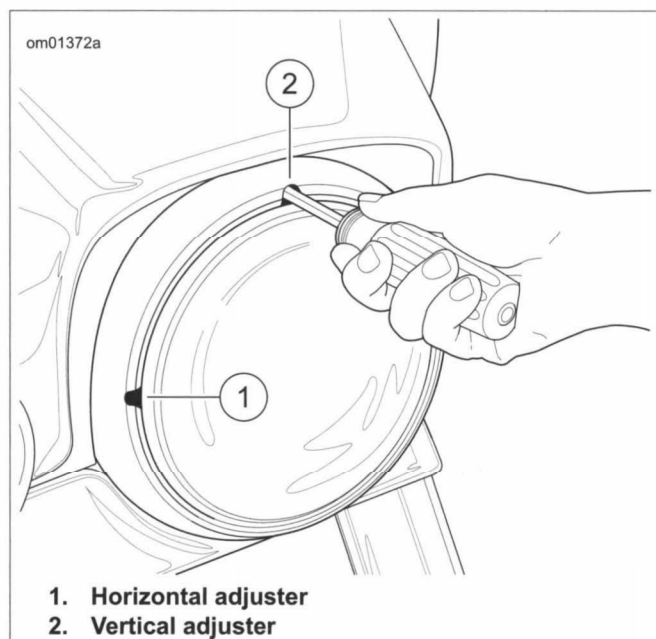
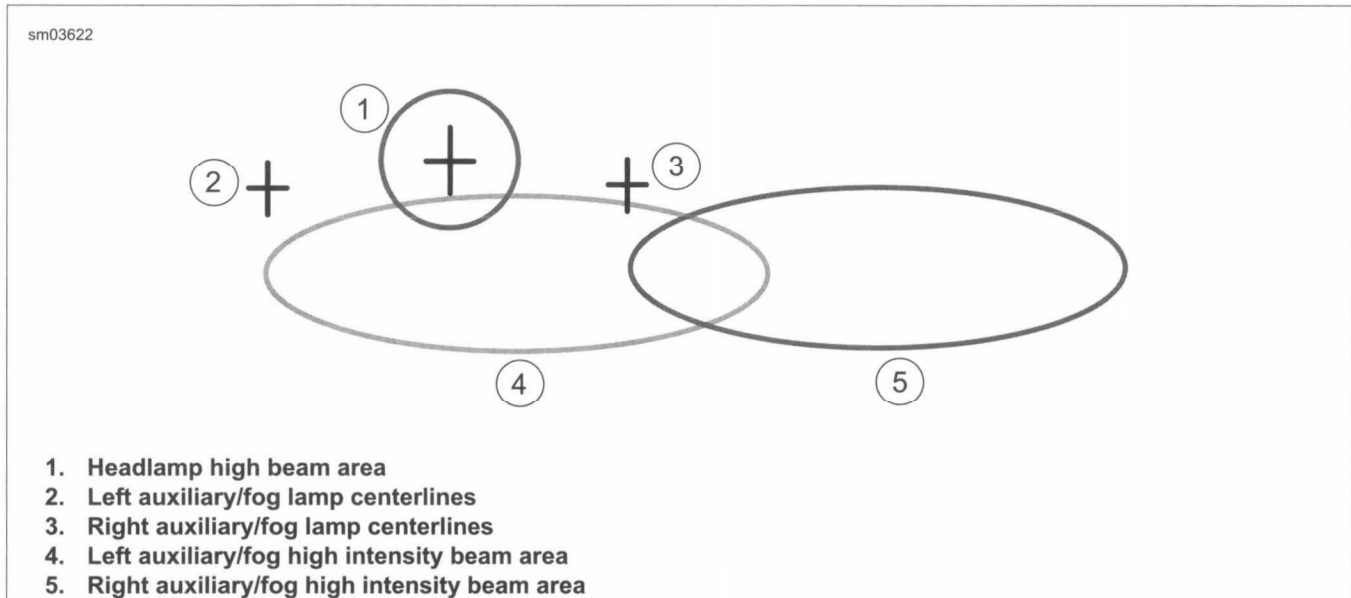
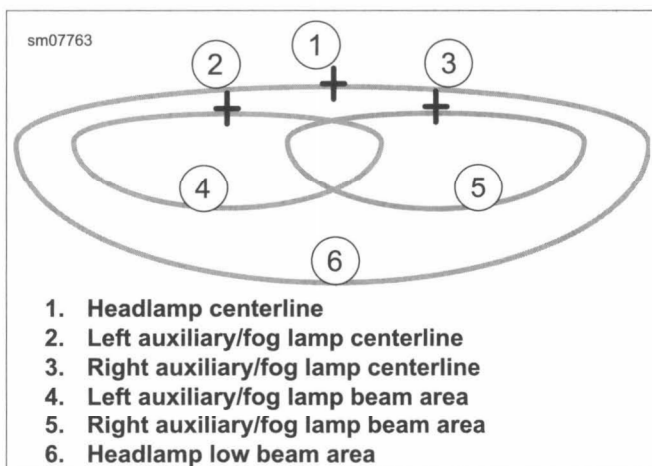

Figure 1-49. Headlamp Adjusters: All except Frame-Mounted Fairing (typical)
Figure 1-51. Properly Aim Lamps: Quartz Halogen Type
Figure 1-52. Headlamp Pattern: LED Type with Auxiliary/Fog Lamps
- a. **Quartz halogen:** See Figure 1-51. Hot spot centered on mark with headlamp set to **high beam**.
- b. **LED, fork-mounted fairing:** See Figure 1-52. Top of hot spot at mark with headlamp set to **low beam**.
2. **All except frame-mounted fairing:** See Figure 1-49. Insert a 5/32 in ball end hex wrench through adjuster slots in trim ring.
- a. **Horizontal:** Turn the horizontal adjusting screw (1) to adjust light beam left and right.
- b. **Vertical:** Turn the vertical adjusting screw (2) to adjust light beam up and down.
- c. See Figure 1-51 or Figure 1-52. Adjust headlamp light beam.
4. See Figure 1-51 or Figure 1-52. Mark the auxiliary/fog lamp horizontal and vertical centerlines (2, 3) on the wall.
- a. **Quartz halogen:** Adjust the left auxiliary/fog lamp so the entire high intensity zone (4) is below and to the right of the left auxiliary/fog lamp centerlines as shown in Figure 1-51.
- b. **LED:** Adjust the left auxiliary/fog lamp so the entire high intensity zone (4) is below the centerline as shown in Figure 1-52.